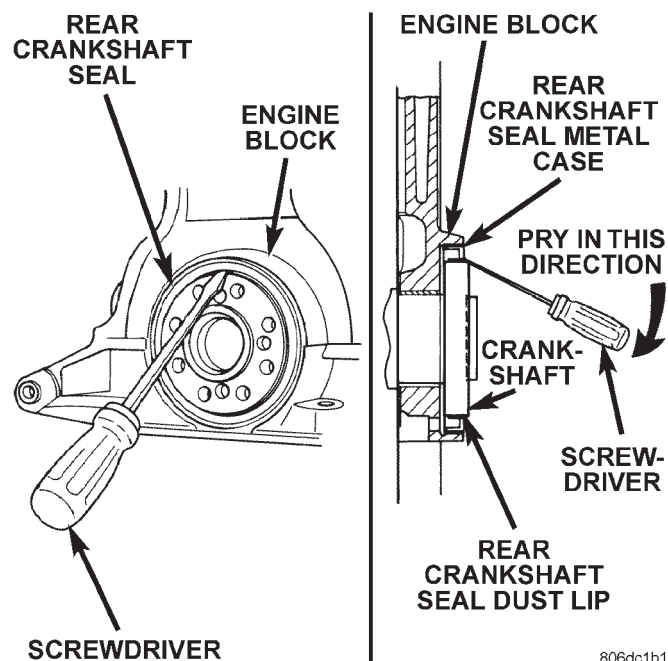

Fig. 71 Rear Crankshaft Oil Seal—Removal
- (1) Insert a 3/16 flat bladed screwdriver between the dust lip and the metal case of the crankshaft seal. Angle the screwdriver (Fig. 71) through the dust lip against metal case of the seal. Pry out seal.